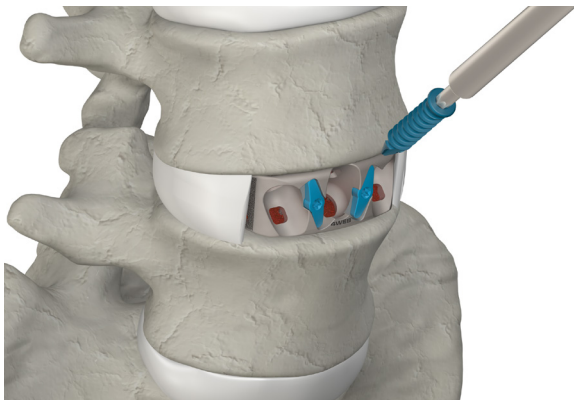
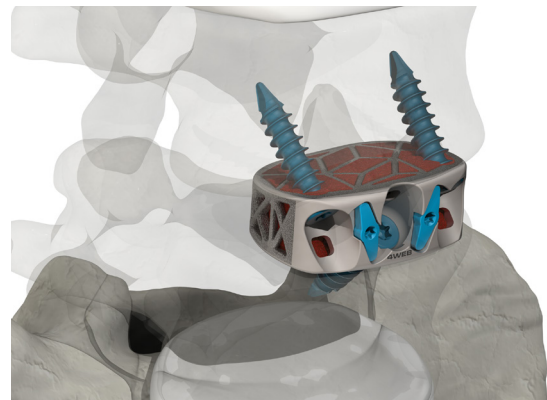

Figure 22
Figure 23
- ▲ Select the desired length screw and fix it to the distal end of the desired driver. Insert the screw through the screw hole on the implant (Fig. 22). Drive the screw until it is fully seated in the implant. Repeat this step for all three screws (Fig. 23).